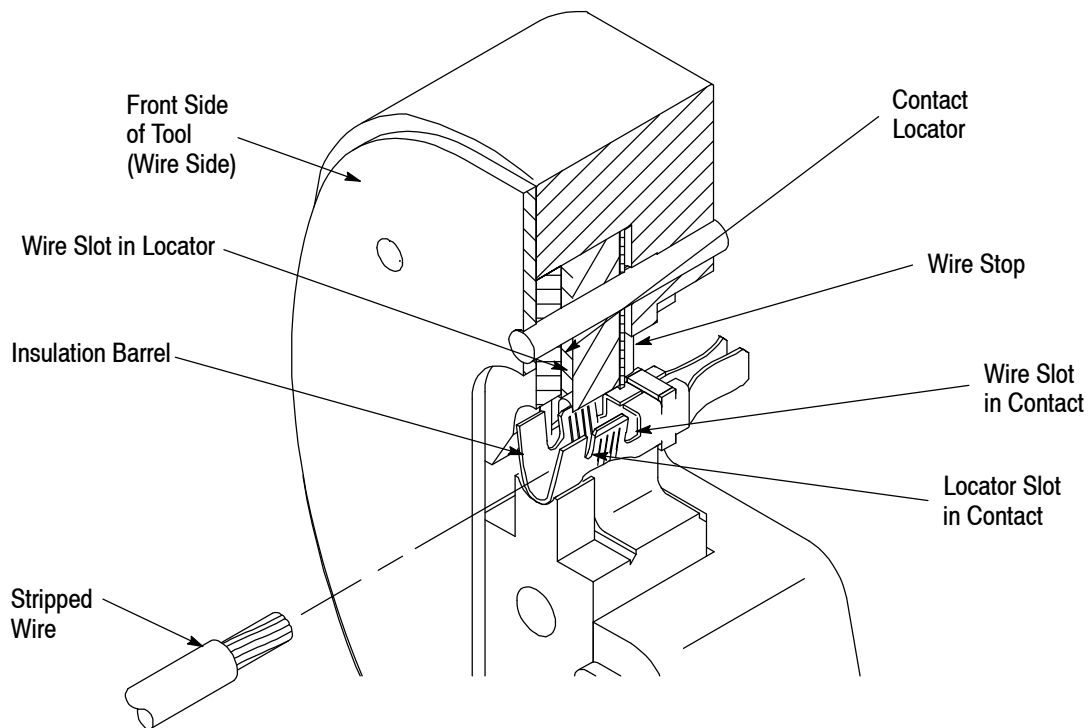

Figure 3
2. Insert the contact insulation barrel into the crimping chamber on the anvil crimping die from the BACK side of tool. Position contact so that the contact locator enters the locator slot in the contact. See Figure 3.